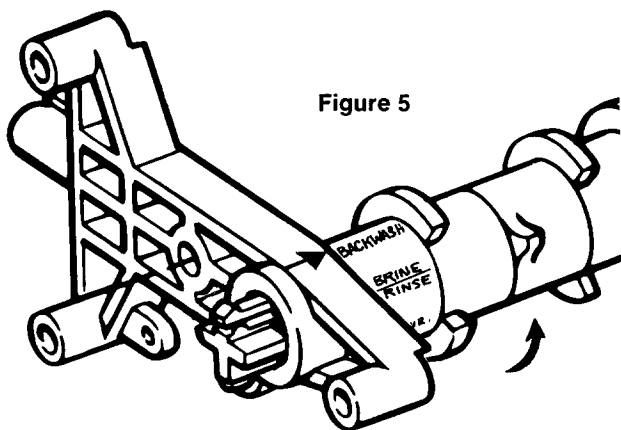

Figure 5
4. Push in on RED KNOB on timer, turn counter-clockwise until arrow on the camshaft/timer support points to the BACKWASH position indicated on #1 cam (see Figure 5).